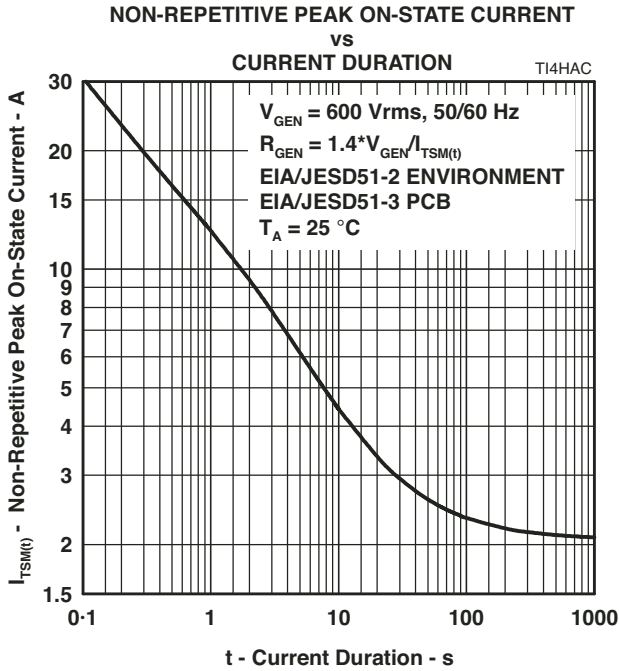

Figure 7.
5. EIA/JESD51-2 environment and EIA/JESD51-3 PCB with standard footprint dimensions connected with 5 A rated printed wiring track widths. See Figure 7 for the current ratings at other durations. Derate current values at  $-0.61\text{ }^\circ\text{C}$  for ambient temperatures above  $25\text{ }^\circ\text{C}$ .
The protector can withstand currents applied for times not exceeding those shown in Figure 7. Currents that exceed these times must be terminated or reduced to avoid protector failure. Fuses, PTC (Positive Temperature Coefficient) resistors and fusible resistors are overcurrent protection devices which can be used to reduce the current flow. Protective fuses may range from a few hundred milliamperes to one ampere. In some cases, it may be necessary to add some extra series resistance to prevent the fuse from opening during impulse testing. The current versus time characteristic of the overcurrent protector must be below the line shown in Figure 7. In some cases, there may be a further time limit imposed by the test standard (e.g. UL 1459/1950 wiring simulator failure).